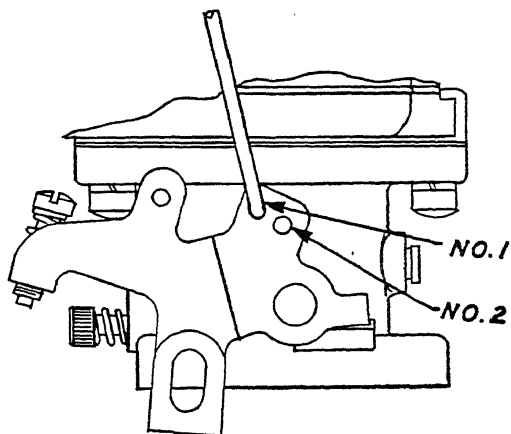

Fig. 108. Buick Accelerating Pump Rod Adjustment
**Accelerating Pump Adjustment.** With ordinary fuels the accelerating pump link, Fig. 108, is connected in the No. 1 hole. The No. 2 hole affords a shorter accelerating pump stroke but does not affect the opening of the economizer valve. This shorter stroke is recommended in order to prevent a staggering or too rich operation, as would be the case with too rich a charge of acceleration. Highly volatile fuels are usually marketed through the winter season so that it may be necessary to make the change from the No. 1 to the No. 2 hole for winter operation. However, it will be necessary for best operation to change back from the No. 2 to the No. 1 for summertime operation when the regular fuels are more generally available. Unless richness is encountered in operating in the No. 1 hole, never make the change to the No. 2.